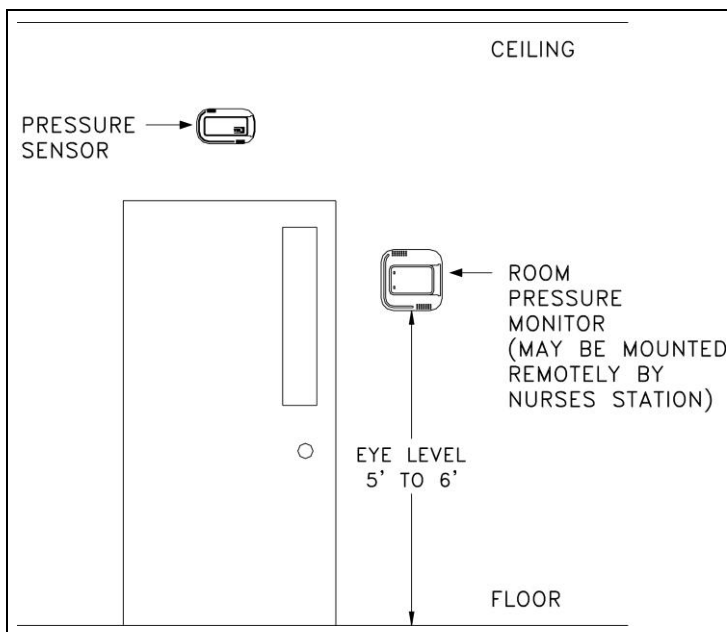

Figure 1: Typical Installation
1. Determine pressure sensor location (Figures 1, 2 and 3). Pressure sensor typically mounts in the reference space, and the dummy housing mounts in the isolation room.
1. Select the mounting location of the pressure monitor. The construction plans normally show the mounting location. If no location is specified, then the unit is typically installed as shown in Figure 1. Alternate mounting locations are nurse's station, other staff areas, etc.